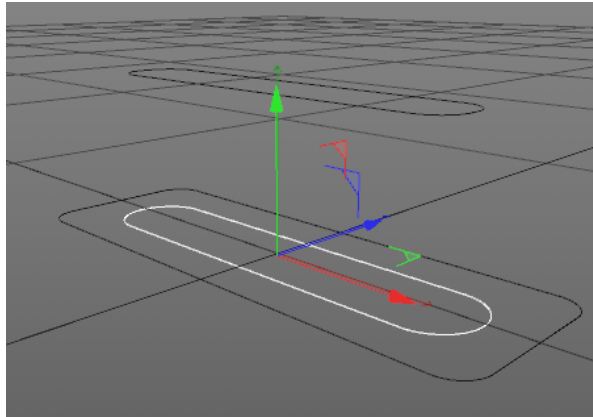

Figure 2-36 *Rectangle.2 placed in the Perspective viewport*
10. In the Attribute Manager, choose the **Coord** button; the **Coordinates** area is displayed. In this area, enter **-3.66** in the **P . Y** spinner. After entering the values, *Rectangle.2* is placed in the Perspective viewport, as shown in Figure 2-36.